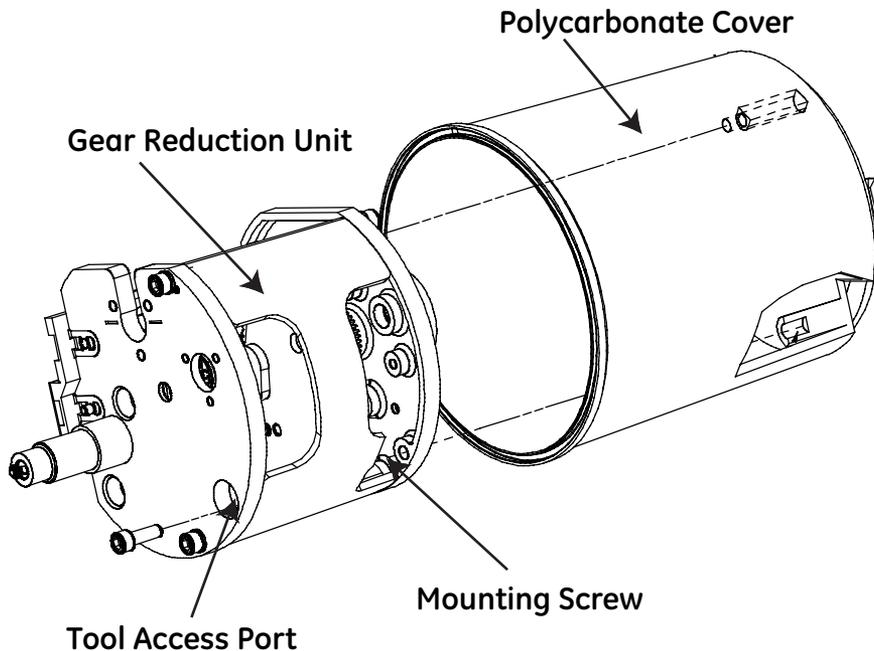

Figure 12 - Exploded view of Gear Reduction Assembly and Polycarbonate Cover
Use a 9/64" hex wrench to remove the mounting screw holding the accessory unit in the polycarbonate cover. The screw can be accessed through the Tool Access Port as shown in Figure 12.
1. Slide the gear reduction unit into the polycarbonate cover. Align the odometer with the large, clear window on the cover. When the gear reduction unit is properly installed, the pin that is molded into the bottom of the polycarbonate cover will engage a hole in the bottom of the plate. (Refer to Figure 12)